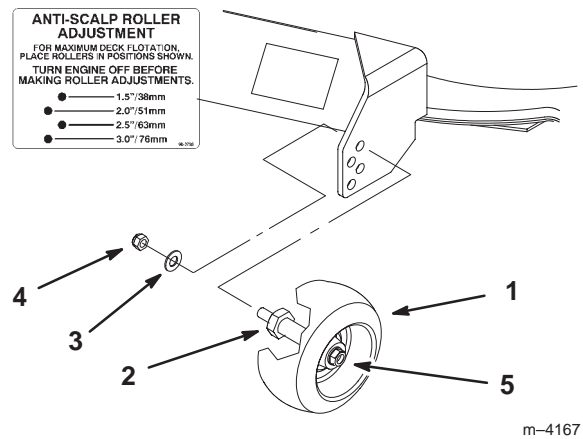

Figure 21
2. After adjusting the height-of-cut, remove the nut and washer while holding the stud with a wrench (Fig. 21).
Note: Do not remove the wheel nut and washer (Fig. 21).
3. Select a hole so that the gage wheel is positioned to the nearest corresponding height-of-cut desired (Fig. 21).
4. Reinstall the stud nut and washer (Fig. 21).